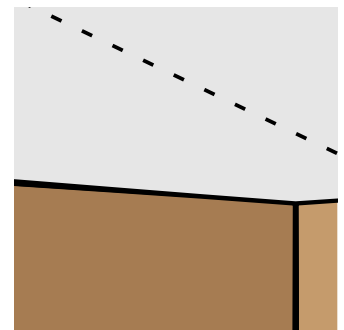

FIG. 9c
- Mark a line parallel to the dust collector's inlet along the reinforced positions from Step 9b [FIG. 9c].